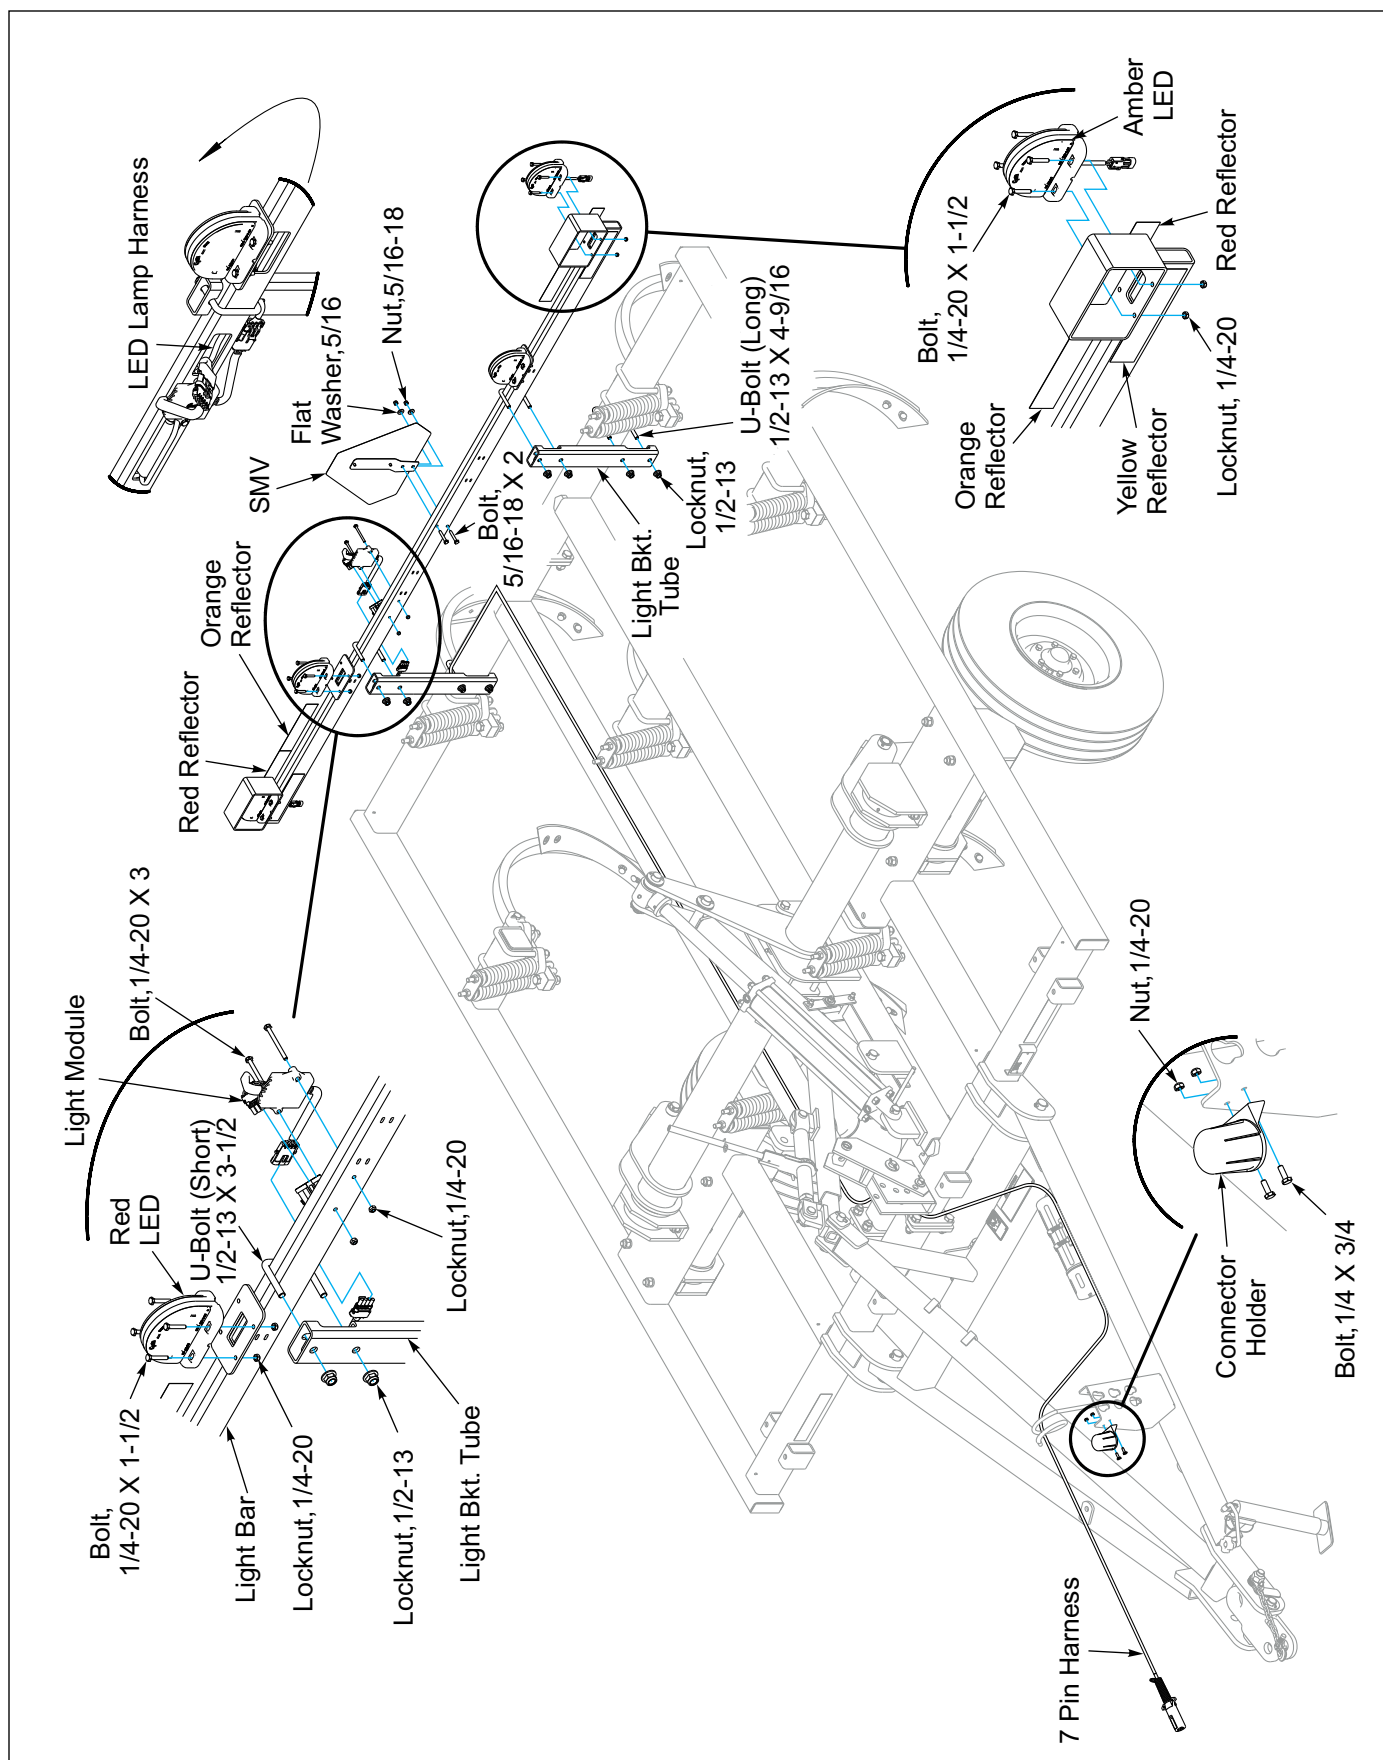

Figure 2-48: LED Layout
2. Route the 7 Pin Harness flat 4 Pin Plug End through the other Light Bracket Tube's larger bottom cutout to the smaller top cutout. **See Figure 2-48 and 2-49.** Mount the Light Bracket Tube onto the right front side of the rear frame tube at a distance per Machine Model. **See Figure 2-50.** Secure with longer 1/2-13 U-Bolt and Flanged Locknuts.
3. Mount the Light Bar, with the light Module opening to the rear right of center, to Light Bracket Tubes. **See Figure 2-48 and 2-49.** Secure with shorter 1/2-13 U-Bolts and Flanged Locknuts.
6. Plug Lamps into Lamp Harness and mount Lamps to Light bar with 1/4-20 x 1-1/2 Bolts and Locknuts. Red lens must face rearward. **See Figure 2-48.**
1. Attach SMV sign to Light Bar with 5/16-1/8 x 2 Screws, Flat Washers and Locknuts. **See Figure 2-48.**